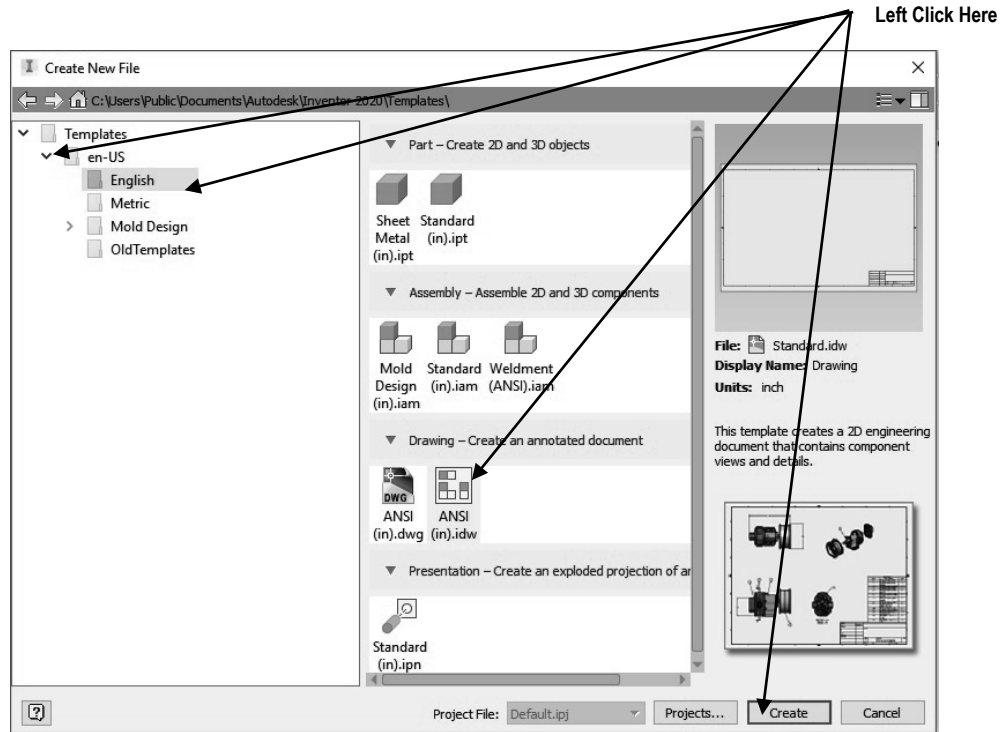

Figure 10
- The Create New File dialog box is shown below. Left click on the drop down arrow next to en-US. Left click on the **English** folder. Left click on the **ANSI (in).idw**. Left click on **Create** as shown in Figure 10.